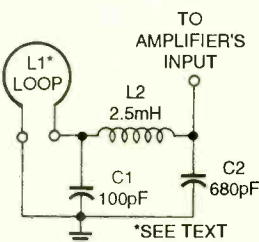

Fig. 7. The low-pass filter shown here filters out any high-power or close-by AM-broadcast interference to improve performance.
**PARTS LIST FOR THE LOW-PASS FILTER (Fig. 7)**
presented, the low-pass filter circuit shown in Fig. 7 can be used between the receiver loop and receiver circuitry. It filters out any high-power or close-by AM-broadcast interference. ■